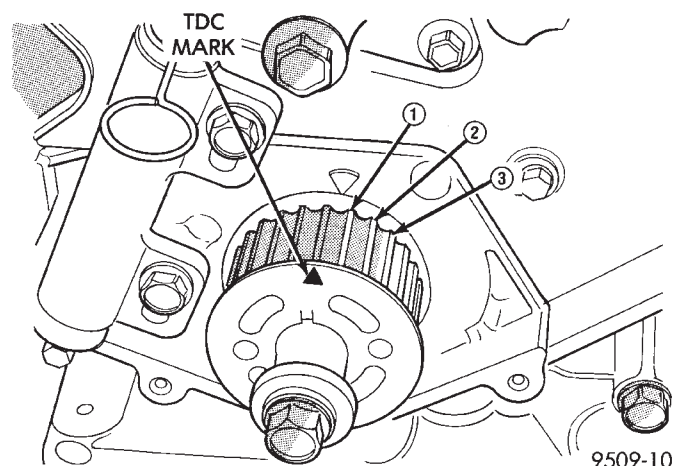

Fig. 44 Crankshaft Sprocket Timing
(4) Set crankshaft sprocket to TDC by aligning the sprocket with the arrow on the oil pump housing, then back off to 3 notches before TDC (Fig. 44).